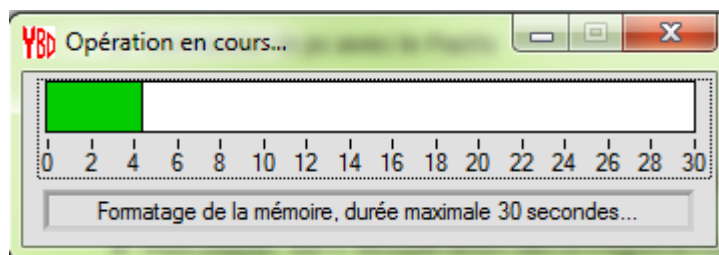

Figure 9. Formatting the PASTiS system
8. A waiting bar is opened until the formatting of the PASTiS system is finished (Figure 9).